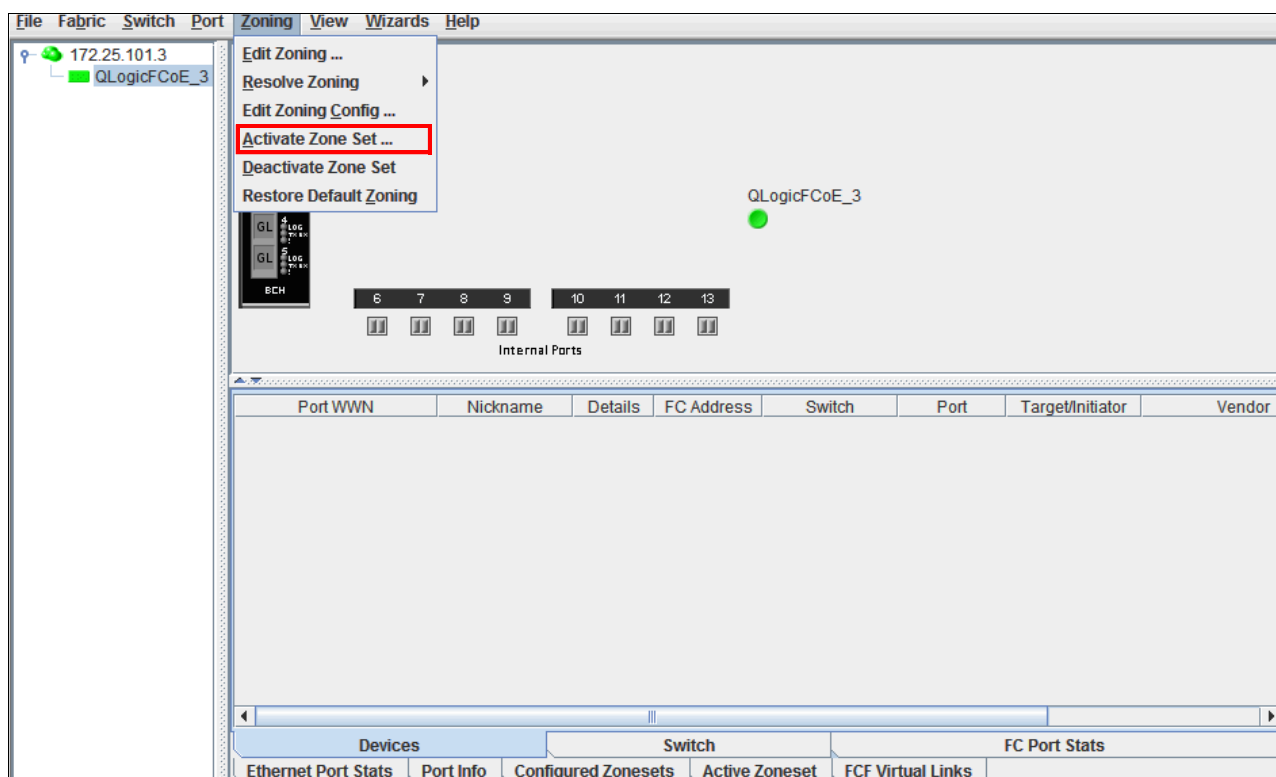

Figure 8-27 Activating a zone set
- Select **Zoning** → **Activate Zoning Set** (Figure 8-27).